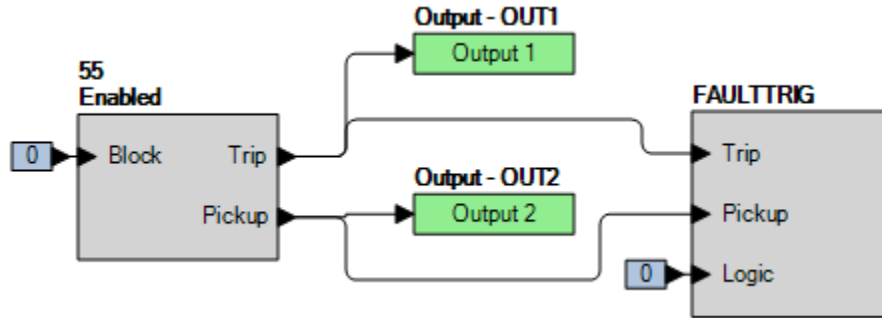

Figure 69-1. BESTlogicPlus Settings
Step 2: Use BESTCOMSPPlus to configure the BESTlogicPlus programmable logic shown in Figure 69-1.
Step 4: Prepare to monitor the 55 function operation. Operation can be verified by monitoring OUT1 (see Figure 69-1).